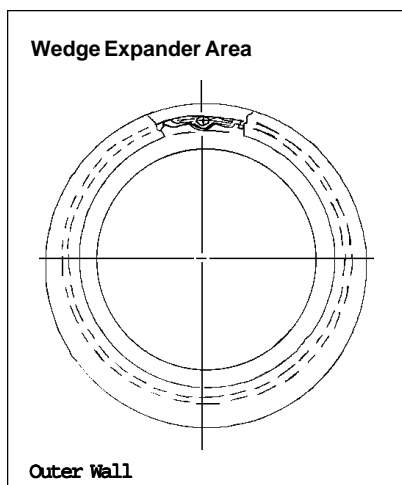

Fig. 1
1. Check to be sure Korband is properly located in Connector groove. (Fig. 1)